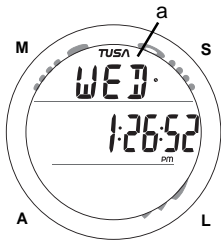

Fig. 8 - MAIN TIME
**MAIN TIME**, information includes (Fig. 8):